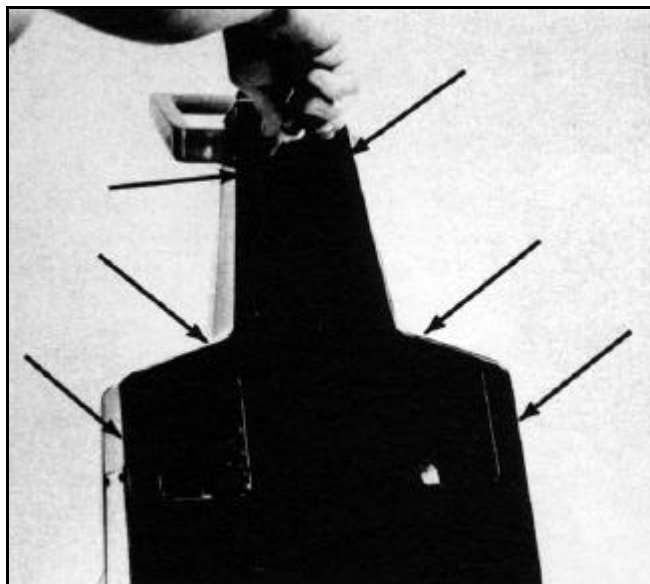

Figure 189
4. Remove the six screws from the back of the snowthrower (Figure 189).